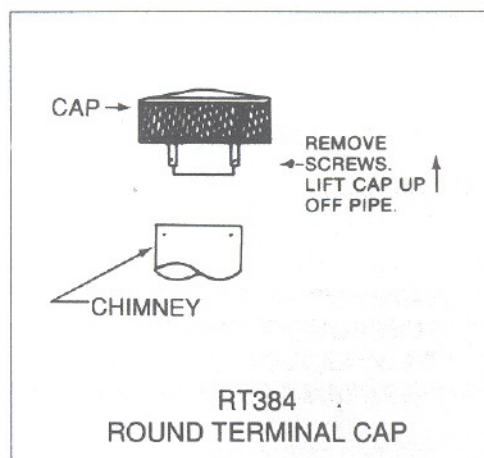

Figure 19
3. Remove the Terminal Cap. See Figure 19.